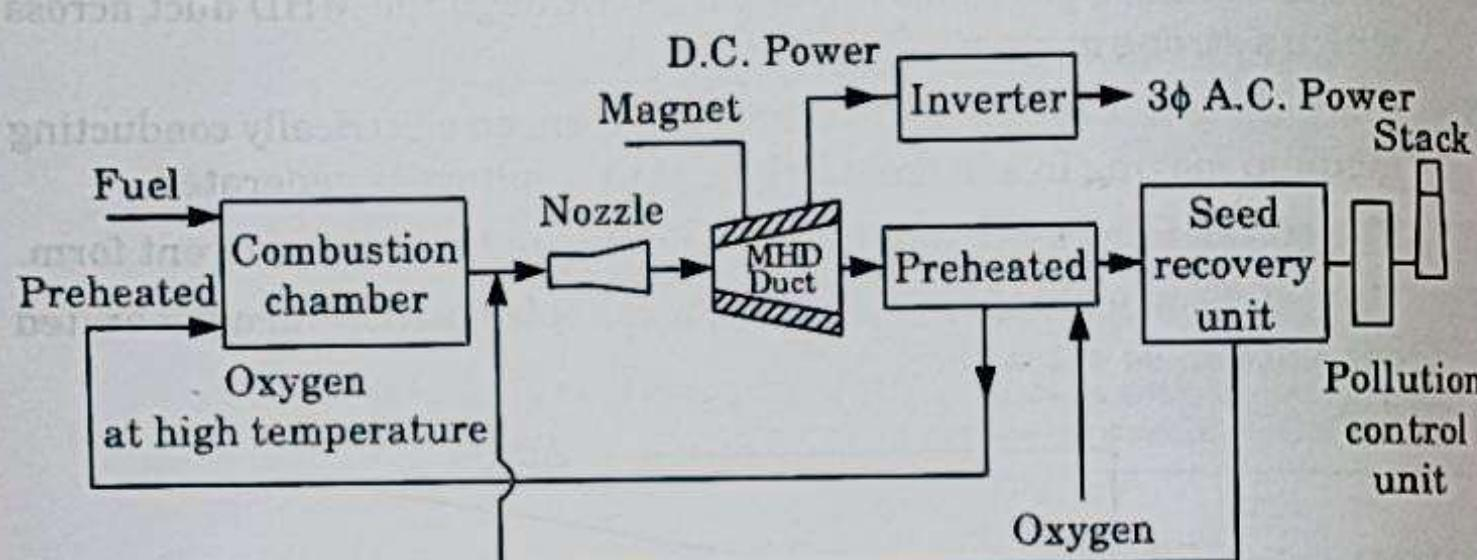

Fig. 3.8.1. Open cycle MHD generator.
- Fig. 3.8.1 shows the schematic diagram of an open cycle MHD generator.